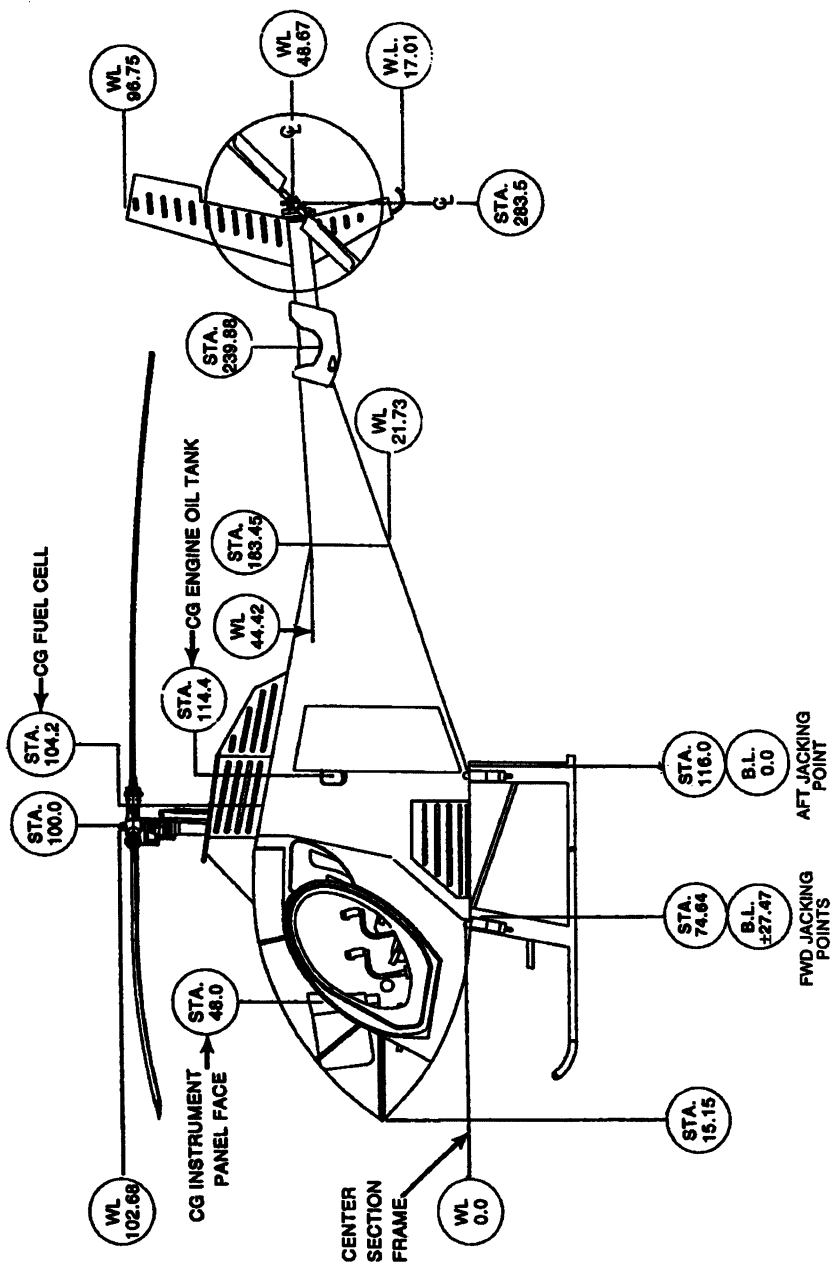

Figure 6-1. Station Diagram
- 6-1.** The 269D7100 Extended Height Landing Gear uses different jacking points than the standard height landing gear to perform aircraft weight and balance. See Figure 6-1 for new jacking point locations.